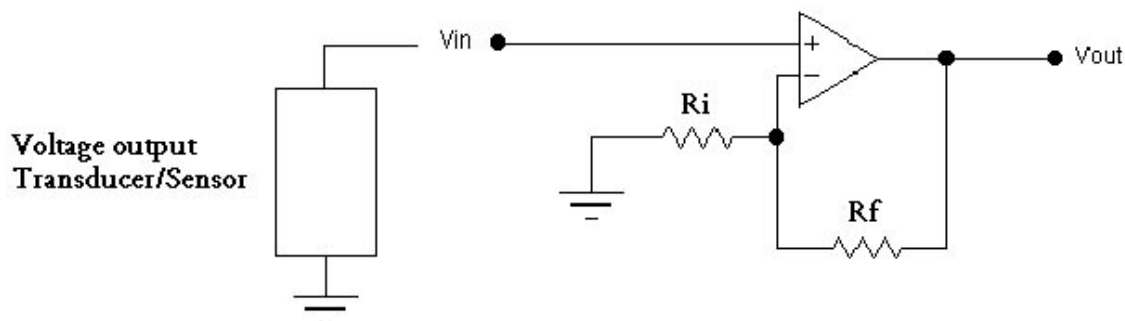

Figure 12. Typical non-inverting amplifier topology with the transfer function given by: $V_{out} = V_{in}(R_f/R_i)$
2. An example of noise calculations for a non-inverting Op-Amp circuit using a Burr-Brown OPA627 is shown in Figures 12 and 13.